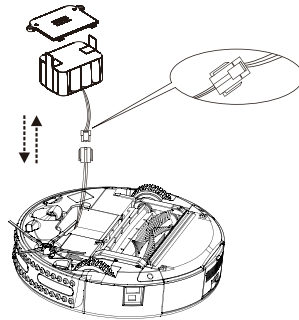

Fig.2
2. Connect battery plug to the connector on main unit. (See Fig. 2)